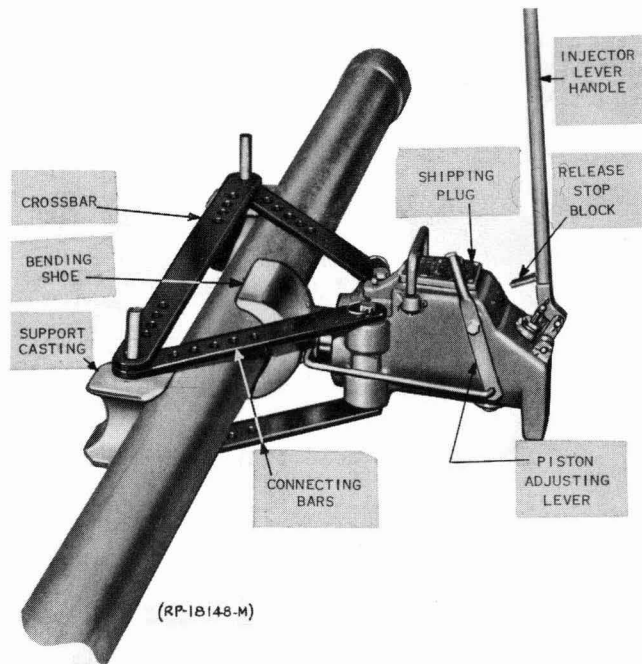

FIG. 4 R-2863 HYDRAULIC CONDUIT BENDER
5.31 Conduit sizes 1 1/4" to 5" may be bent with the R-2863 hydraulic bender. Refer to Figure 4 which illustrates an assembled bender in proper condition for bending.